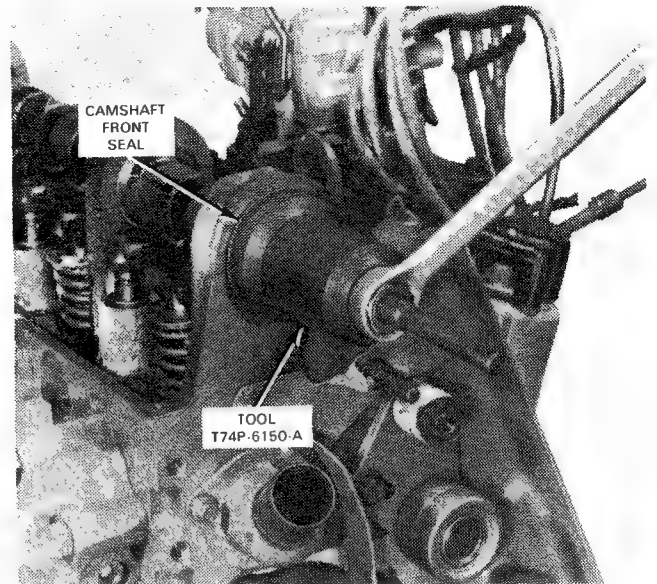

FIG. 41 Installing Camshaft Front Seal
10. Use tool T74P-6150-A to install the camshaft front seal. (Fig. 41)
The belt tensioner and spring stud may be removed by unscrewing the adjusting bolt, the spring retaining bolt, and the spring stop stud. (Fig. 41)